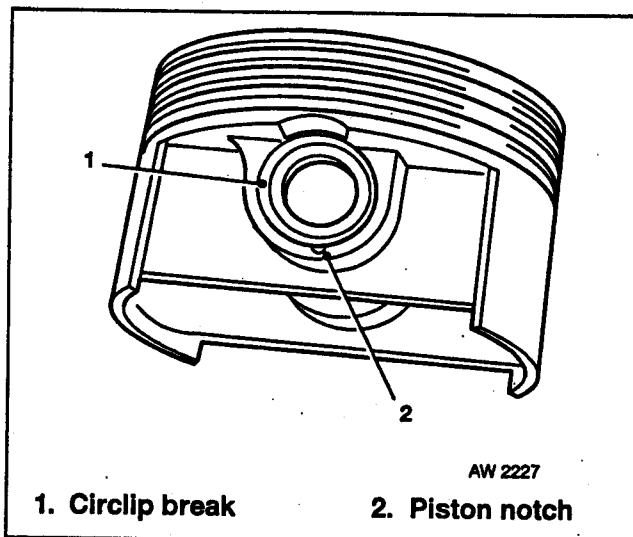

Fig 2.16 Piston Pin Circlip
- e. Once the circlips are installed, turn each circlip so that the circlip break is not directly in line with the piston notch. Fig 2.16 refers.